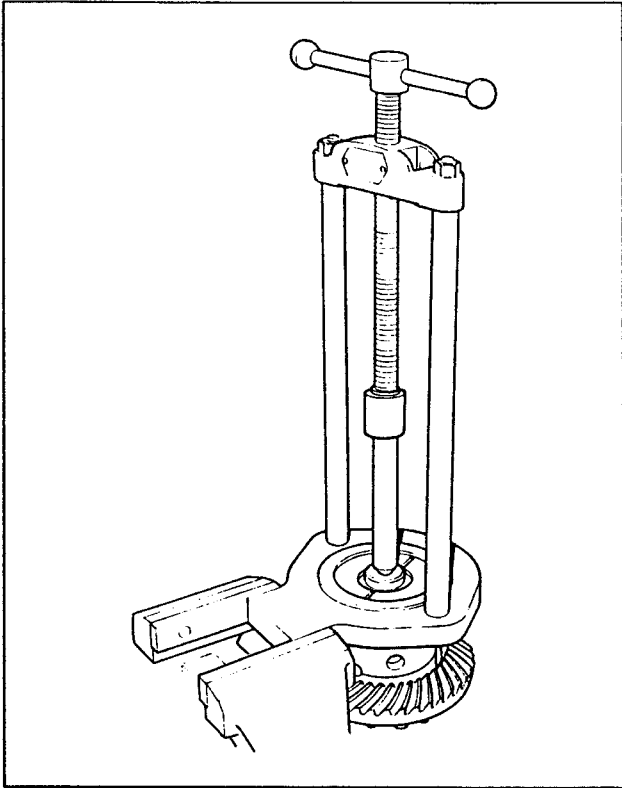

Fig. 15 Removing the differential bearing cones
21. Remove the differential case bearing cones (Fig. 15) using the screw press MS 47 and adaptors FX 4212 ensuring the collars on the puller adaptors are correctly located over the bearing cones. Retain the bearing cones with their respective cups if they are to be re-used.
53. Pull the bearing cones off the differential case (Fig. 15) with screw press MS 47 and adaptor FX 4212. Fit one of the shim packs to the side of the differential case for which it was selected and then refit the bearing cone, tapping it into position with the handle MS 550 and adaptor FX 4235. Repeat the procedure for the other side bearing cone and shim pack.